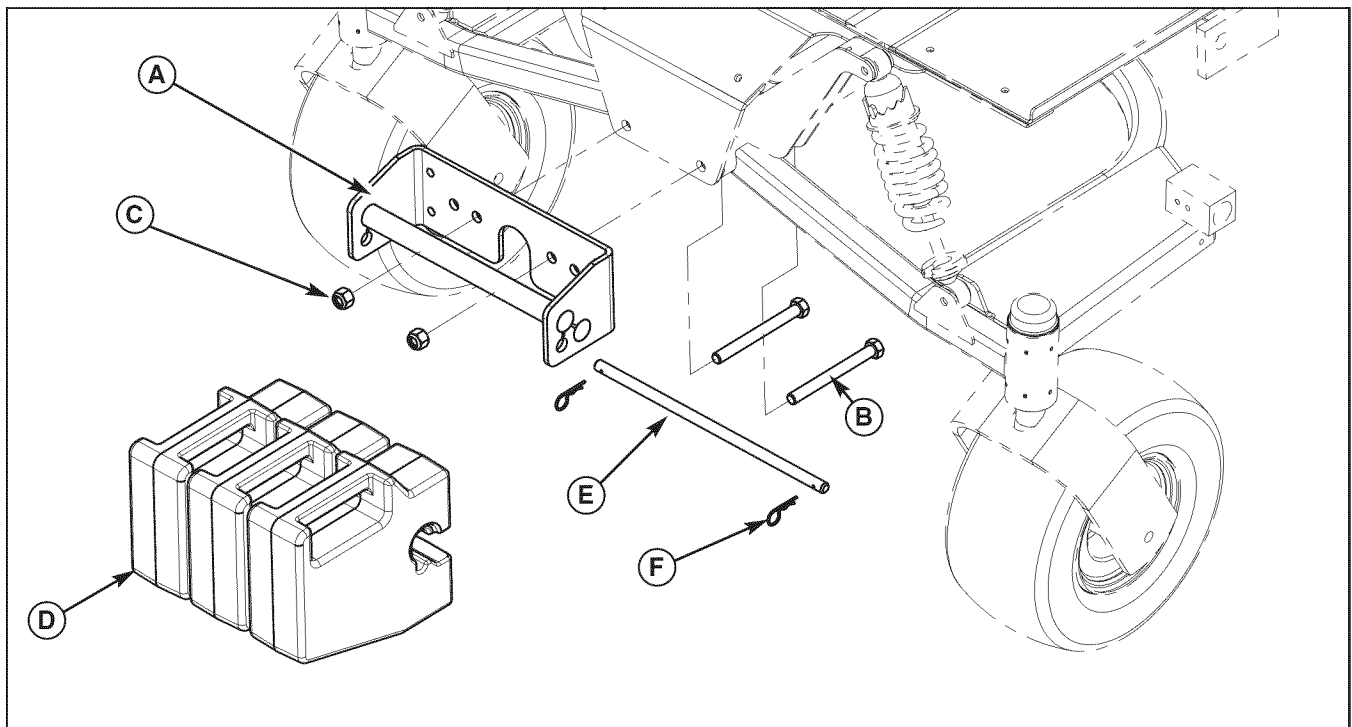

Figure 53. Install Weight Carrier
2. Remove the 1/2-13 x 5" bolts (B, Figure 53) and 1/2-13 nylon lock nuts (C) securing the front suspension arms to the frame.
3. Install the weight carrier (A) onto the front of the unit and secure with the 1/2-13 x 5" bolts and 1/2-13 nylon lock nuts previously removed.
4. Install the counter weights (D) in the weight carrier and secure with the retaining pin (E) and hairpin clips (F).